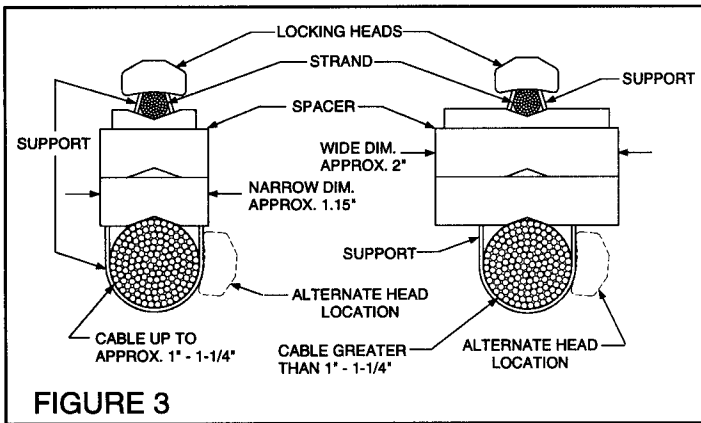

FIGURE 3
- 4.2 Place DELTEC[®] cable supports on a single cable or sleeve as shown in Figures 3.